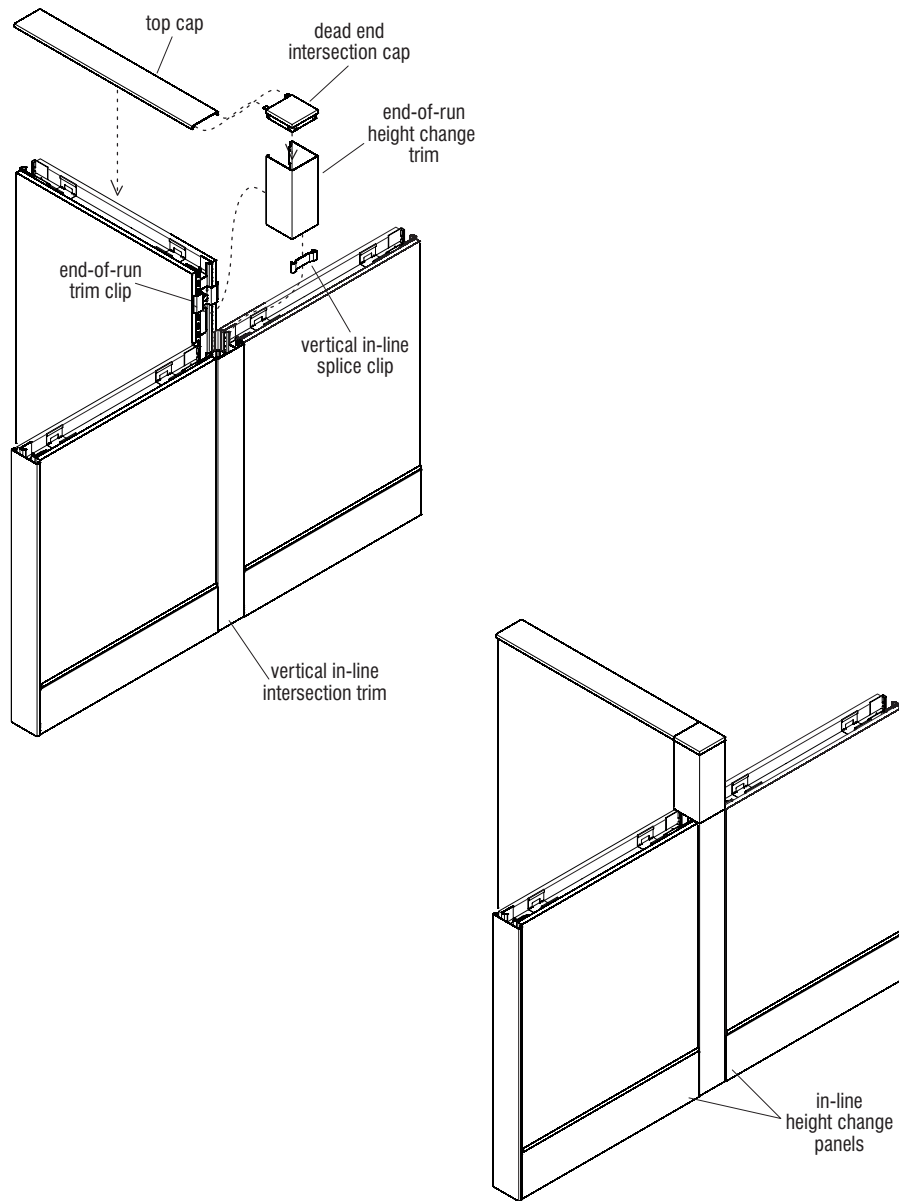

Figure 15 - End-of-Run In-Line Height Change Vertical Trim
**Note:** Vertical splice clips help align mating vertical trim. The splice clip is provided for various in-line and 90° connections. For in-line connections (Figure 15), snap off one-half of the splice clip at the notch location and discard the unused section.